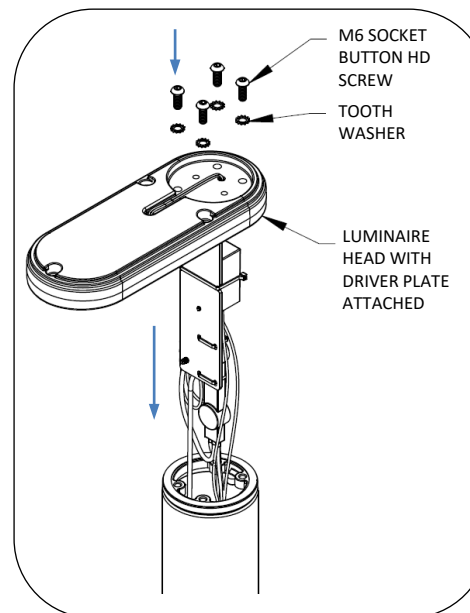

Fig. 8 – Install luminaire and driver plate
12. Make wiring connections (refer to page 3) between driver plate and line-in supply wiring, see Fig. 8.
13. Secure luminaire and driver plate assembly to pole with (4) M6 screws and lock tooth washers, see Fig. 8.